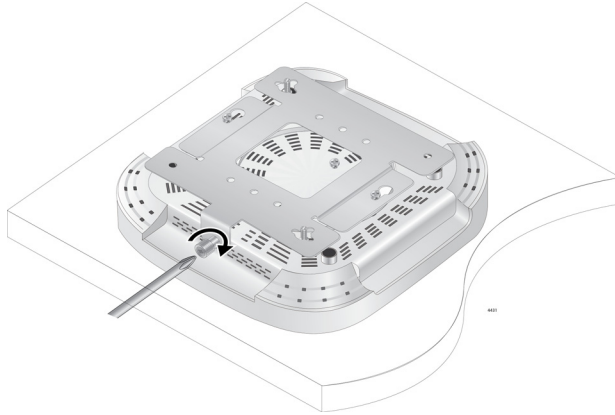

Figure 19. Securely Fasten Chassis to Mounting Bracket with Thumbscrew
3. Tighten the bracket thumbscrew into the front of the chassis until it is securely fastened. Refer to Figure 19.